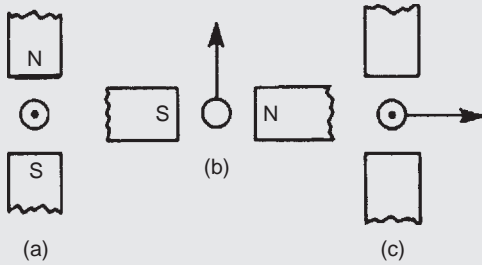
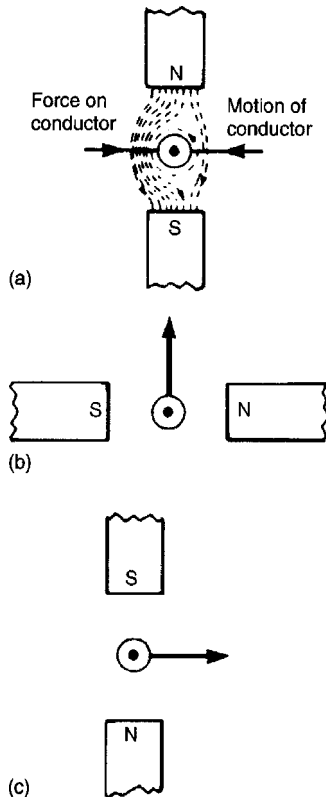

Figure 11.4
Figure 11.5
Problem 5. The diagrams shown in Fig. 11.4 represents the generation of e.m.f.s. Determine (i) the direction in which the conductor has to be moved in Fig. 11.4(a), (ii) the direction of the induced e.m.f. in Fig. 11.4(b), (iii) the polarity of the magnetic system in Fig. 11.4(c).
- (i) Using Lenz's law: The field due to the magnet and the field due to the current-carrying conductor are shown in Fig. 11.5(a) and are seen to
i.e. **towards the viewer or out of the paper**, as shown in Fig. 11.5(b)
- (iii) The polarity of the magnetic system of Fig. 11.4(c) is shown in Fig. 11.5(c) and is obtained using Fleming's right-hand rule.